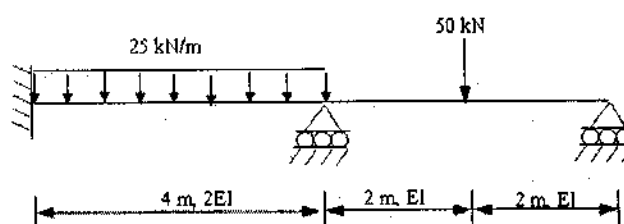

Figure 6
- Q. 5. Analyse the beam as shown in figure 6 using **Generalised Stiffness method** and hence draw the SFD and BMD.